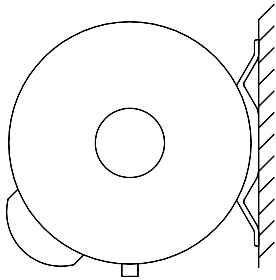

Fig. 7
- Fig.7 horizontal tubes sur virole au mur
- Fig.7 horizontal tubes on collar on the wall